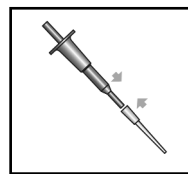

Figure 1
2. Place a yellow pipette tip firmly onto the end of the orange MiniPet®⁵ (fig. 1).